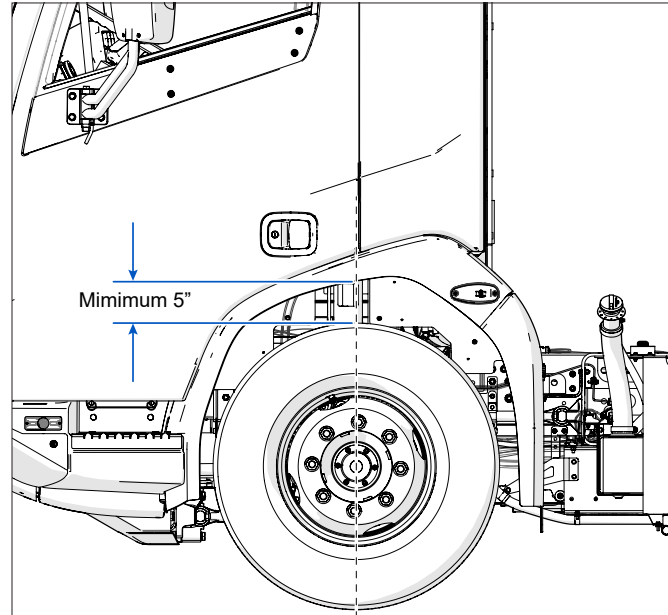

Figure 27 - Minimum ride height for towing
- If the hydraulic suspension is non-functional and the distance between the front tire and fender is less than 5 inch (**Figure 27**), flatbed platform towing is required.
- If the hydraulic suspension is non-functional and the distance between tire and fender is 5 inch or more (**Figure 27**), towing by the front axle is allowed (**follow procedure - Towing the vehicle**).